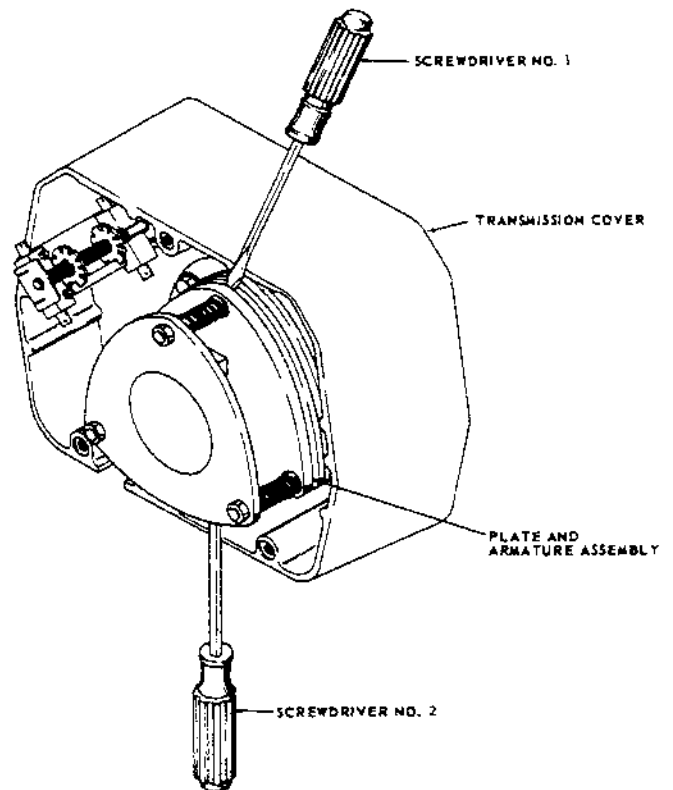

FIGURE 4-3. LOAD BRAKE FUNCTION CHECK
- f. Check mechanical load brake function (see Figure 4-3).
- c. Referring to Figure 4-3 and Figure 8-8, place screwdrivers No. 1 and No. 2 behind the plate and armature assembly and prepare to pry against the transmission cover.